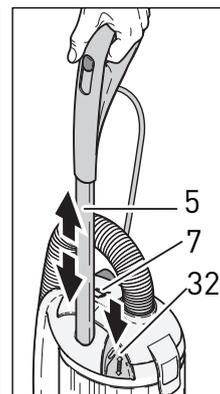

Figure 4
2. Adjust the telescopic handle tube (5) to the correct height by pulling out the handle release lever (32) and gently pulling the tube out to lengthen, or pushing it in to shorten. The tube will click into place when it reaches one of the three lengths available. Release the tab. If the tab does not fit snugly in place, the tube is set at an incorrect setting. Pull or push the tube until it locks into one of the three settings - see figure 4.
Full Bag or Clog Indicator - Figure 4